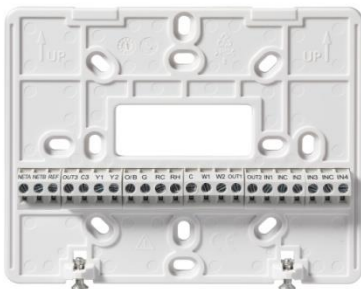

Figure 2. Thermostat Base Plate.
4. Attach the HVAC system wires to appropriate terminals on the thermostat base plate Figure 2.
5. Attach MS/TP wire to NET terminals on left of the thermostat base plate Figure 2.